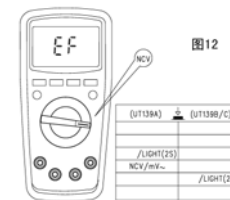

Figure 12
9. NCV Non-contact AC voltage sensing (See Figure 12)